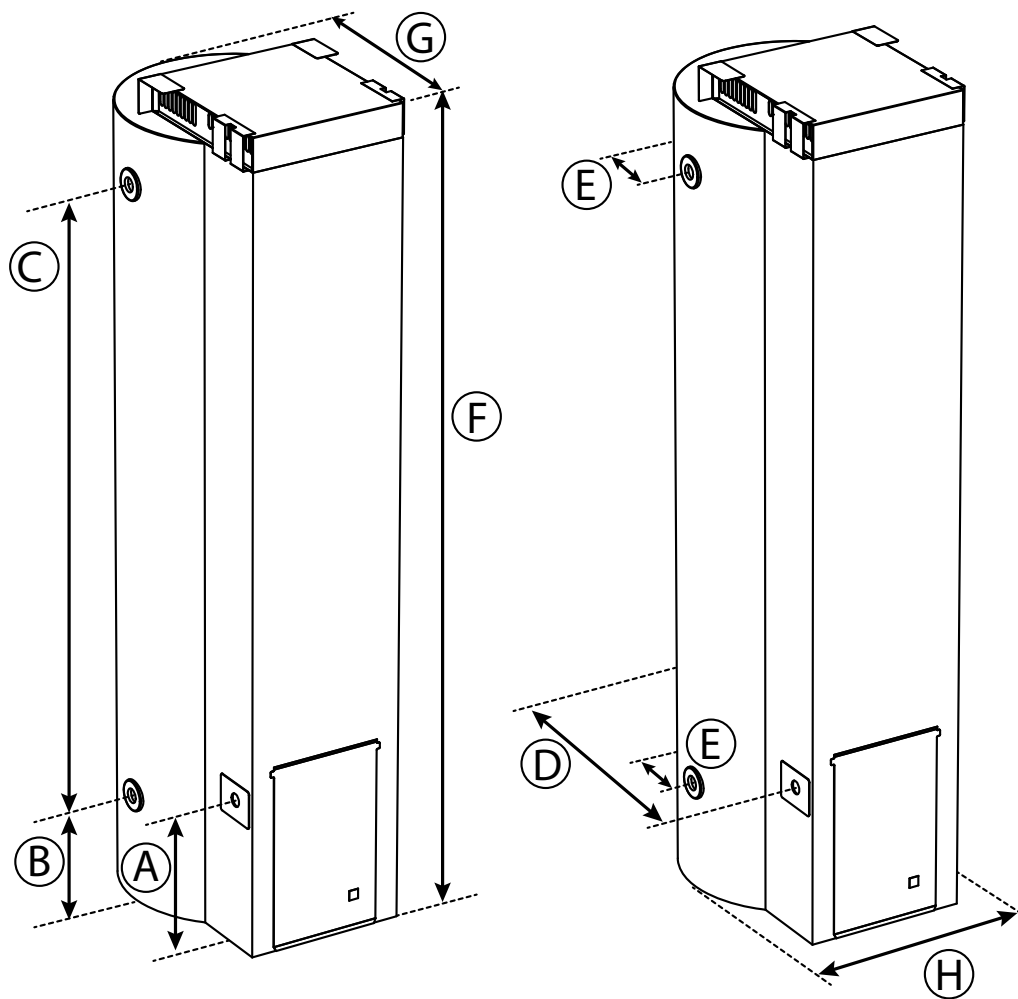

Figure 3 - Appliance Dimensions
Refer to the Data Label for correct gas type. Gas piping should be connected through the side of the case (refer to Appliance Dimension Figure 3).
7. If pilot has failed to light or has not remained alight, turn gas control knob to "●" (Off). Wait Five (5) minutes for the escape of unburnt gas, then begin again at step 3. (Figure 3 - "Lighting Instructions" on page 9).